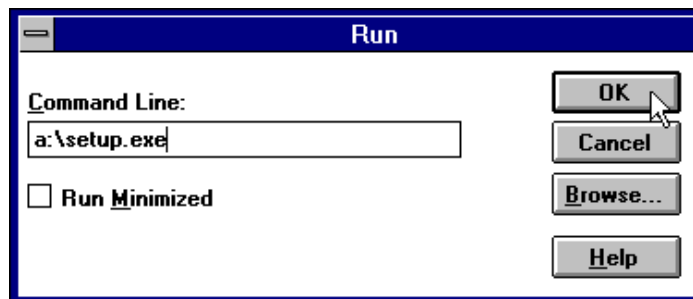

Figure 50 – RUN dialog box
3. Type **a:\setup.exe** in the COMMAND LINE text box in the **RUN** dialog box. Click **OK** to continue. See Figure 50.